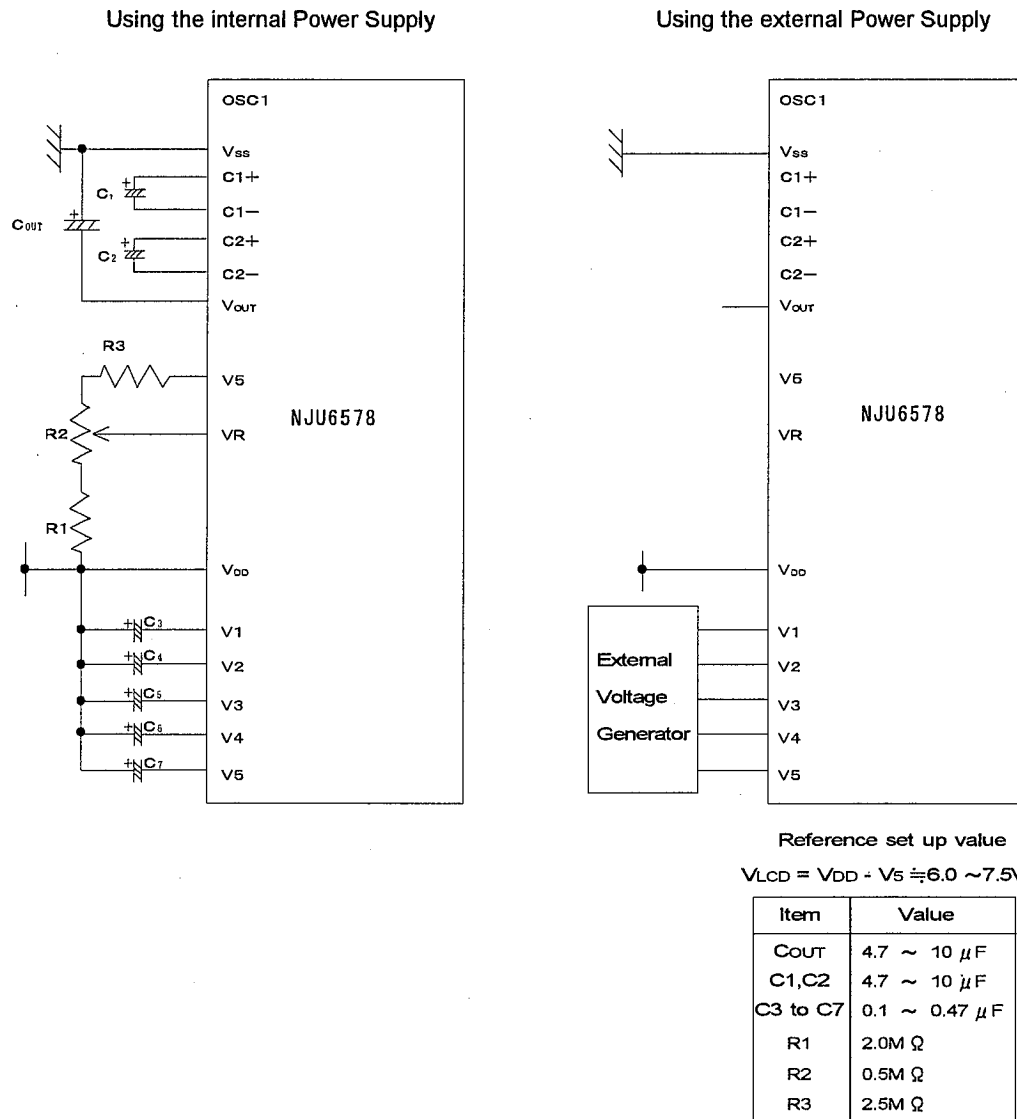

Fig. 4
*2 The wait time depends on the C3 to C7, COUT capacitors (refer (4) (d)Fig.4), VDD and VLCD voltage.
As shown in Fig. 4, Five capacitors are required to connect to each LCD driving voltage terminal for voltage stabilizing. And the value of capacitors C3, C4, C5, C6 and C7 are determined depending on the actual LCD panel display evaluation.